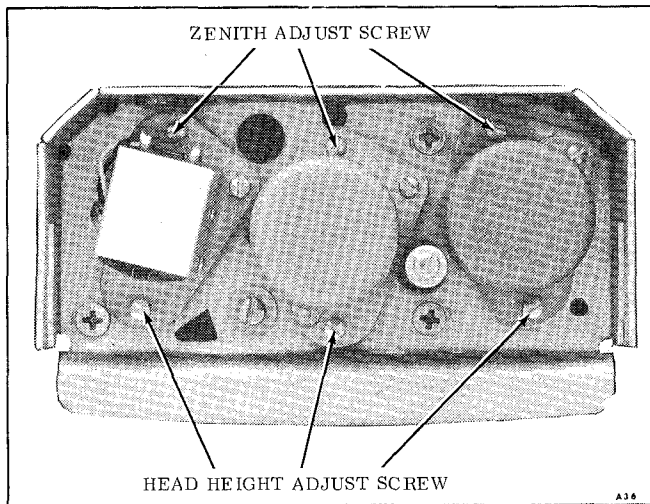

Figure 5-7. Head Adjustments
5.29 HEAD HEIGHT (See Figure 5-7)
5.34 HEAD ZENITH AND TAPE WRAP (See Figure 5-7)